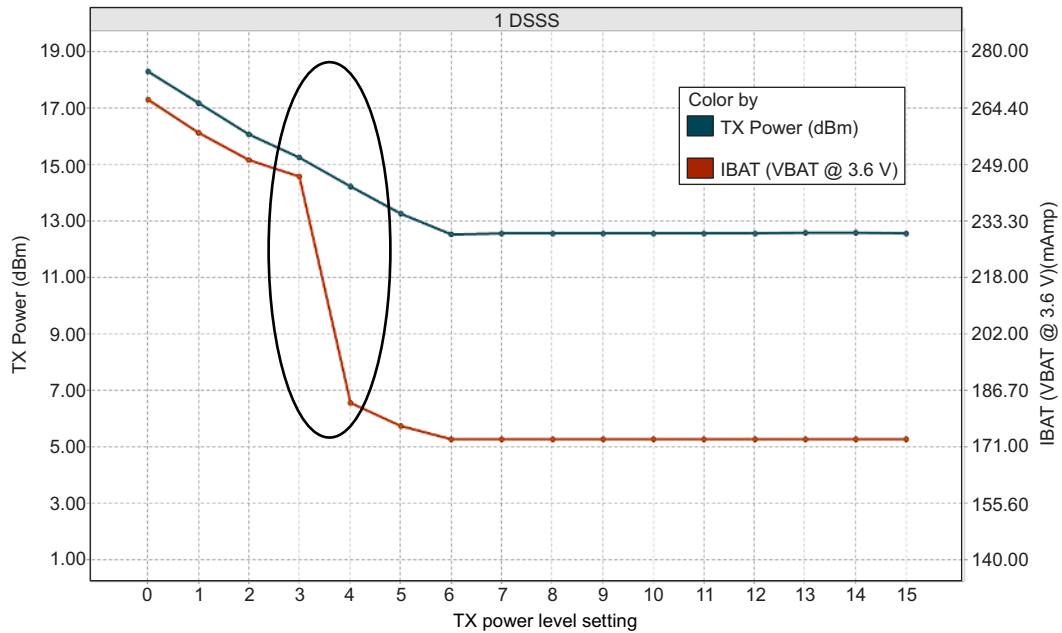
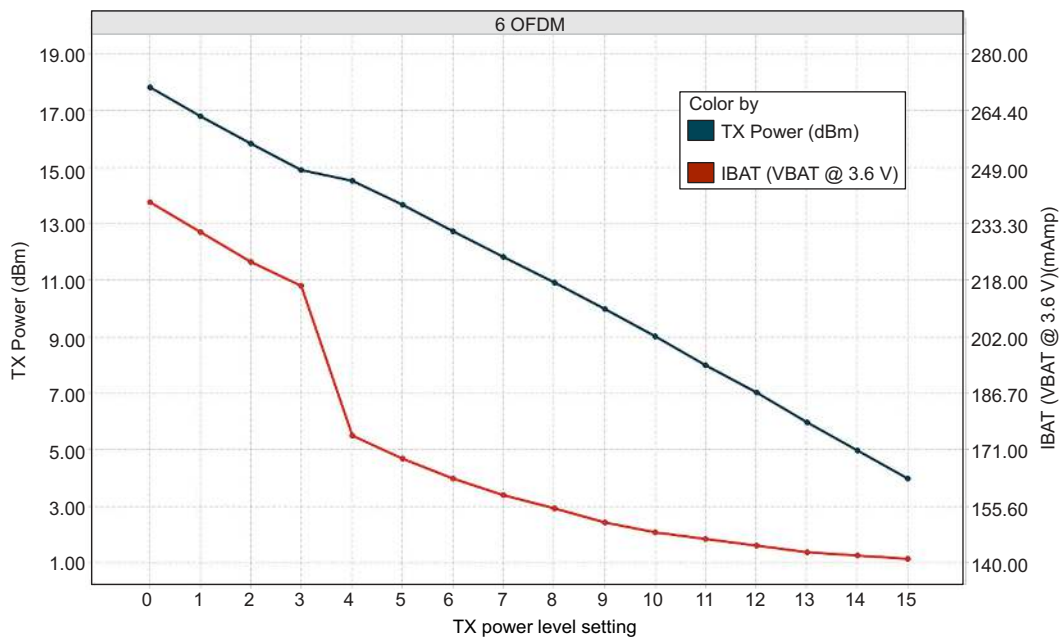
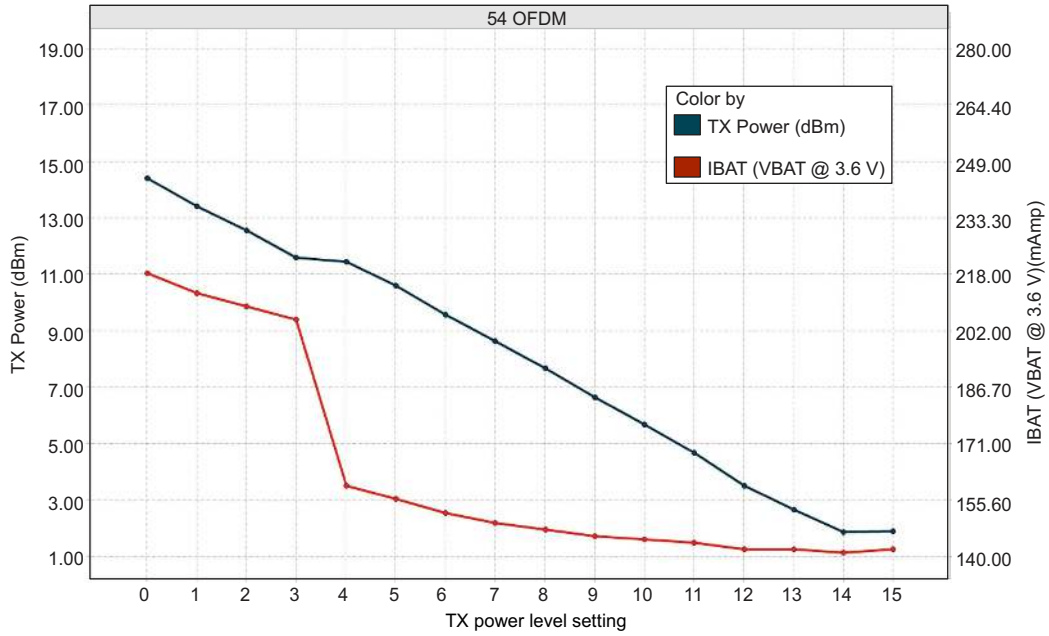

Figure 8-1. TX Power and IBAT vs TX Power Level Settings (1 DSSS)
Figure 8-2. TX Power and IBAT vs TX Power Level Settings (6 OFDM)
Figure 8-3. TX Power and IBAT vs TX Power Level Settings (54 OFDM)
- (1) TX power level = 0 implies maximum power (see Figure 8-1, Figure 8-2, and Figure 8-3). TX power level = 4 implies output power backed off approximately 4 dB.
- (2) LPDS current does not include the external serial Flash. The LPDS number of reported is with retention of 256KB of MCU SRAM. The CC3220x device can be configured to retain 0KB, 64KB, 128KB, 192KB, or 256KB of SRAM in LPDS. Each 64-KB block of MCU retained SRAM increases LPDS current by 4 μA .
- (3) DTIM = 1
- (4) The complete calibration can take up to 17 mJ of energy from the battery over a time of 24 ms. In default mode, calibration is performed sparingly, and typically occurs when re-enabling the NWP and when the temperature has changed by more than 20°C. There are two additional calibration modes that may be used to reduced or completely eliminate the calibration event. For further details, see CC3120, CC3220 SimpleLink™ Wi-Fi® and IoT Network Processor Programmer's Guide.
- (5) The CC3220x system is a constant power-source system. The active current numbers scale based on the V_{BAT} voltage supplied.
- (2) LPDS current does not include the external serial flash. The LPDS number of reported is with retention of 256KB of MCU SRAM. The CC3220x device can be configured to retain 0KB, 64KB, 128KB, 192KB, or 256KB of SRAM in LPDS. Each 64-KB block of MCU retained SRAM increases LPDS current by 4 µA.
- (4) The complete calibration can take up to 17 mJ of energy from the battery over a period of 24 ms. Calibration is performed sparingly, typically when coming out of HIBERNATE and only if temperature has changed by more than 20°C. The calibration event can be controlled by a configuration file in the serial Flash..
Figure 8-1, Figure 8-2, and Figure 8-3 show TX Power and IBAT versus TX power level settings for the CC3220R and CC3220S devices at modulations of 1 DSSS, 6 OFDM, and 54 OFDM, respectively. For the CC3220SF device, the IBAT current has an increase of approximately 10 mA to 15 mA depending on the transmitted rate. The TX power level will remain the same.
In Figure 8-1, the area enclosed in the circle represents a significant reduction in current during transition from TX power level 3 to level 4. In the case of lower range requirements (14-dBm output power), TI recommends using TX power level 4 to reduce the current.